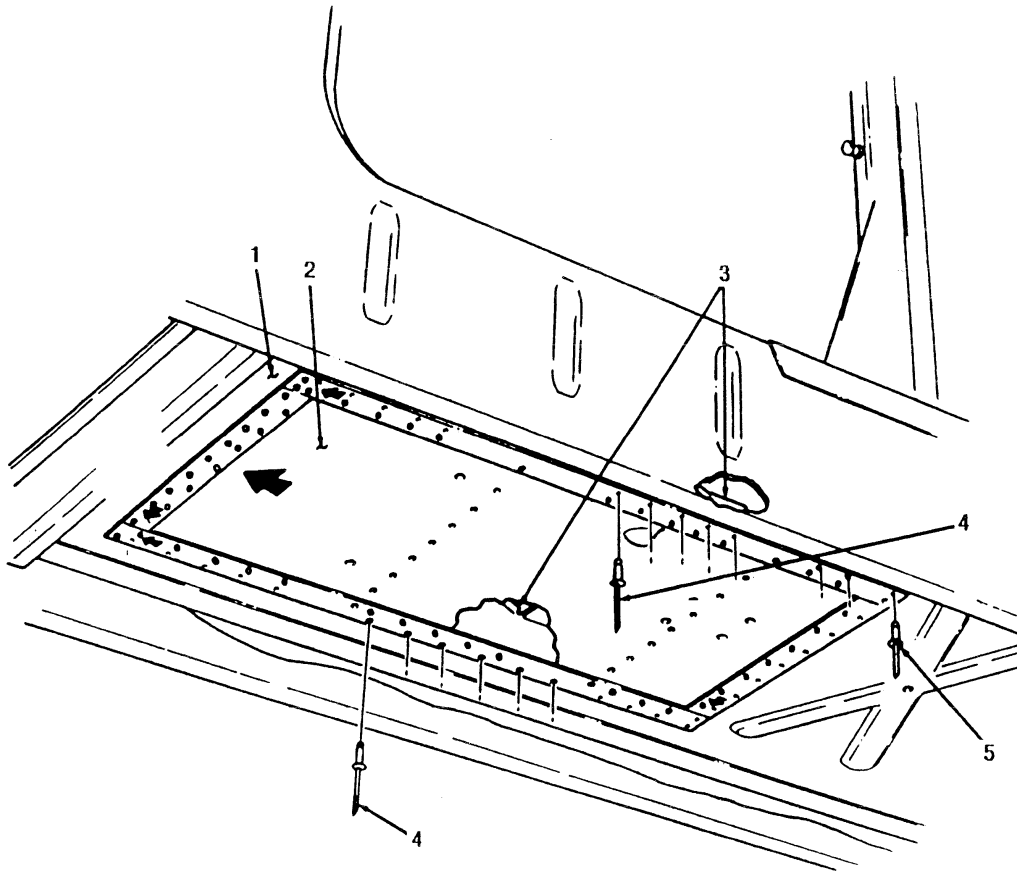
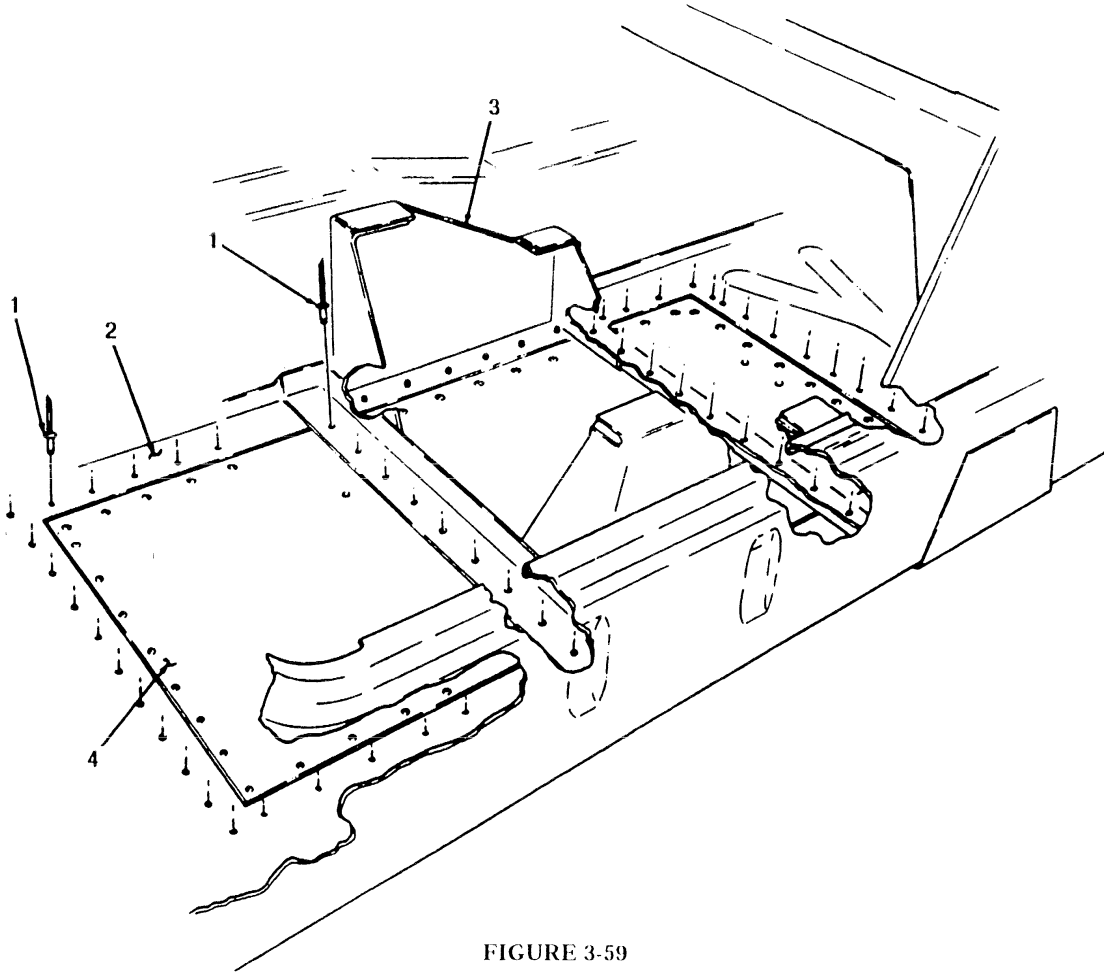

FIGURE 3-58
FIGURE 3-59
6. Position insert panel (2) to underside of left front floor panel (1) with the arrow facing down and toward front of vehicle. (see figure 3-58)
7. Install eleven NSN 5320-01-264-5978 rivets (4) in holes in insert panel (2) and left front seat support (3).
8. Install three NSN 5320-01-271-6357 rivets (5) in holes in insert panel (2) and left front floor panel (1).
9. Install eighteen NSN 5320-01-271-6357 rivets (1) in holes in left front seat support (3) and insert panel (4). (see figure 3-59)
10. Install thirty-four NSN 5320-01-271-6357 rivets (1) in holes in left front floor panel (2) and insert panel (4).
11. Spot paint insert panel (2), left front seat support (3), and left front floor panel (4). (see figure 3-59) (Refer to TM 43-0139.)